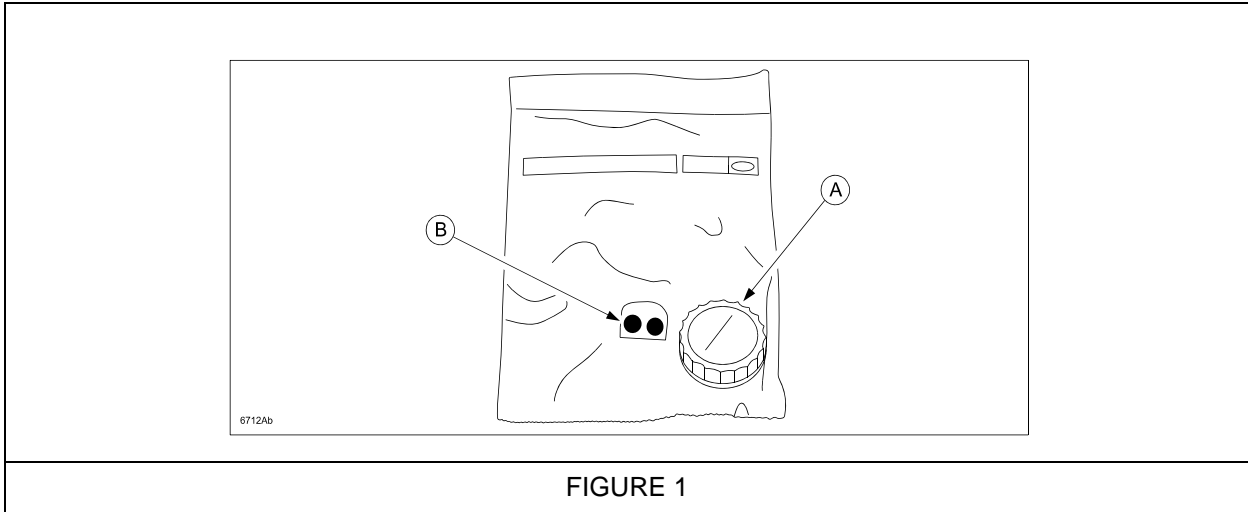

FIGURE 1
2. Install the revised brake master cylinder reservoir cap (A). See Figure 1.